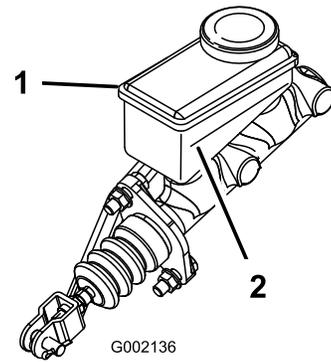

**Figure 55**
- Raise the hood to gain access to the master-brake cylinder and reservoir (Figure 55).
- Clean the area around the reservoir cap and remove the cap (Figure 55).
- Install the reservoir cap (Figure 55).